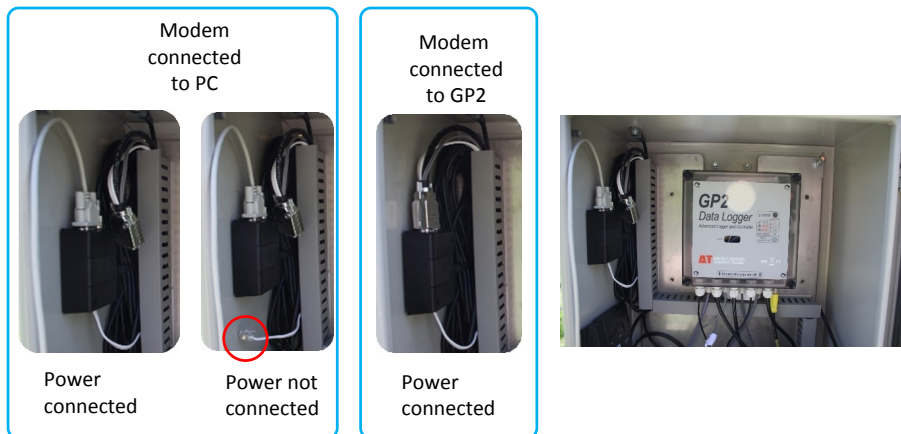

Figure 11 Modem connections while being configured (left) and in use (centre).
Figure 11 shows how to apply and remove power to the modem. You can be told to do this if using the GSMConfig software.
1. Disconnect the modem from serial cable in the M-ENCL enclosure and connect it directly to your PC serial port using PC-modem serial cable **GSM-RS-DB9** as shown in Figure 11.